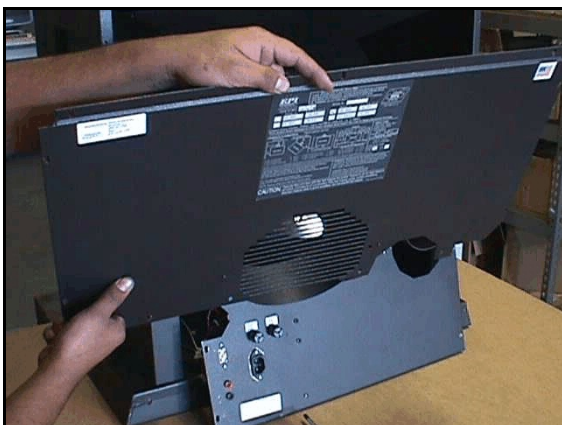

Figure 3
**Accessing the motor for brush service:** The fan motor is accessed from the rear of the heater by removing the phillips screws on the upper and lower rear access panels. Once the panels are free tilt the upper panel to the rear allowing the fan shroud to clear the convection fan blade (**Figure 3**)